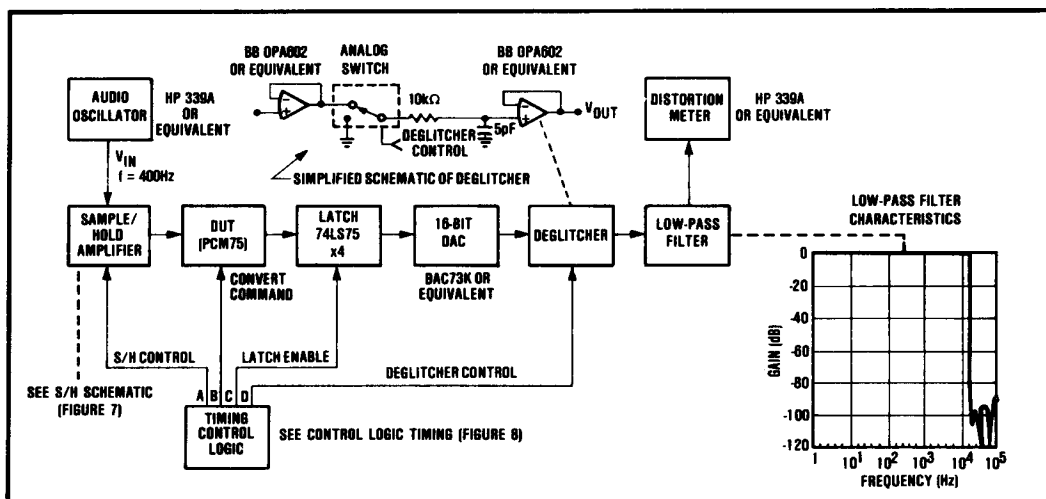

FIGURE 6. Block Diagram of Distortion Test Circuit.
NOTES: (1) The measurement of Total Harmonic Distortion + Noise (THD+N) and Dynamic Range is highly dependent on the characteristics of the sample/hold amplifier, the digital-to-analog converter, the deglitcher, and the low-pass filter. To accurately measure THD+N and Dynamic Range, the accuracy of each device should be better than 16-bit accuracy. A block diagram showing the measurement technique Burr-Brown uses is shown in Figure 6. (2) DTL/TTL compatible, i.e., Logic "0" = 0.8V max. Logic "1" = 2.0V min for inputs. For digital outputs Logic "0" = +0.4V max. Logic "1" = 2.4V min. (3) Adjustable to zero. (see "Optional External Gain and Offset Adjustment.") (4) FSR means Full Scale Range. For example, unit connected for $\pm 10V$ range has 20V FSR. (5) Conversion time may be shortened with "Short Cycle" set for lower resolution and with use of Clock Rate Control. See "Additional Optional Connections" section. The Clock Rate Control (pin 23) should be connected to Digital Common for specified max conversion time. Short Cycle (pin 32) should be left open for 16-bit resolution or connected to the $n + 1$ digital output for n -bit resolution. For example, connect Short Cycle to bit 15 (pin 15) for 14-bit resolution. (6) See Table I. CSB—Complementary Straight Binary, COB—Complementary Offset Binary, CTC—Complementary Two's Complement. (7) CTC coding obtained by inverting MSB (pin 1). (8) Adjustable with Clock Rate Control from approximately 933kHz to 1.4MHz. See Figures 14 and 15 and Table III.
The Total Harmonic Distortion (THD) is defined as the ratio of the square root of the sum of the squares of the value of the rms harmonics to the value of the rms fundamental and is expressed in percent or dB. A block diagram of the test circuit used to measure the THD of the PCM75 is shown in Figure 6 along with a timing diagram for the control logic. If we assume that the error due to the test circuit is negligible, then the rms value of the PCM75 error referred to the input can be shown to be